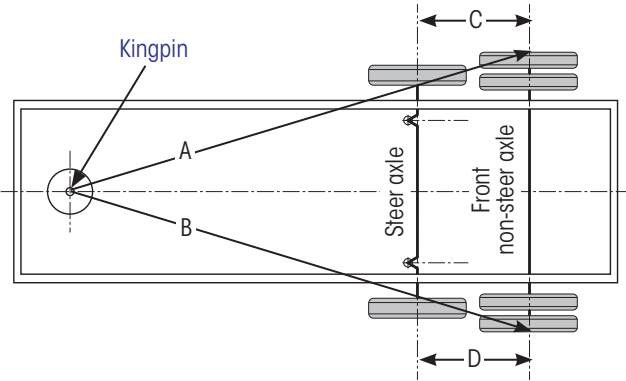

Figure 27: Self-steer axle alignment measurements
**IMPORTANT:** A self-steer axle must not be used as the primary front most axle for axle-axle alignment in these procedures (see Figure 27).
1. If not already done, **check and align** the front (non-steer) axle thrust angle (Figure 27, A=B) according to KINGPIN TO FRONT AXLE ALIGNMENT CHECK on page 12.
4. **Follow** AXLE-AXLE ALIGNMENT CHECK on page 15 (Figure 27, C=D) and ensure it is within specifications listed in Table 5 on page 13.